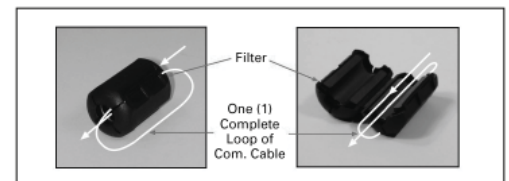

FIGURE 3. COMMON MODE FILTER INSTALLATION
- Select cable up to 10 feet long from **Table 1** below and route cable to Motor Insight™, installing communications filter provided with C4411 following the instructions in **Figure 3**.
Locate the common mode communication filter. Open the shell and insert (1) complete loop. Close and snap the shell shut. See **Figure 3**. The filter is to be located as close to the Motor Insight overload relay as possible.